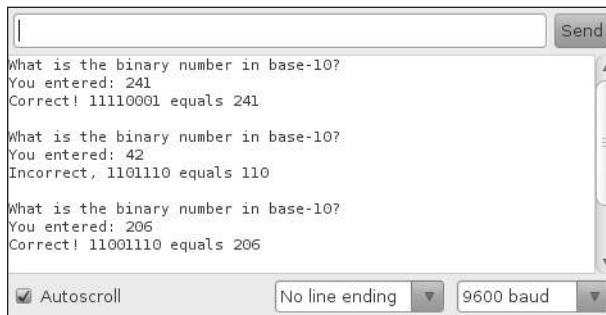

Figure 6-7: Project 17 in play
Let's review how the sketch works. At ❶, `void setup()` configures the digital output pins to use the shift register, starts the Serial Monitor, and seeds the random number generator. At ❷, the custom function `displayNumber()` accepts a byte of data and sends it to the shift register, which uses LEDs to display the byte in binary form via the attached LEDs (as in Project 16). At ❸, the custom function `getAnswer()` accepts a number from the user via the Serial Monitor (as in Project 14) and displays it, as shown in Figure 6-7.
Figure 6-7 shows the game in play in the Serial Monitor.